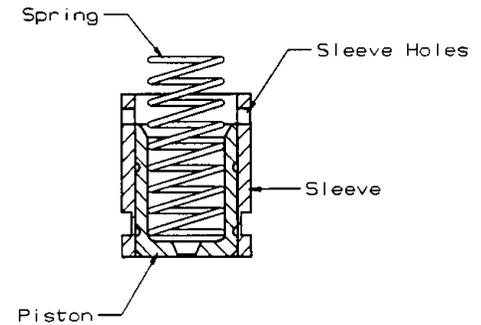

Figure 2
7. Starting the syrup side flow control, remove the two (2) screws and bonnet retaining plate. Retain the plate and screws for reuse when installing the ceramic FC and new bonnet.
13. Insert piston into sleeve with open end upward. Assembly should be as shown in Figure 2.